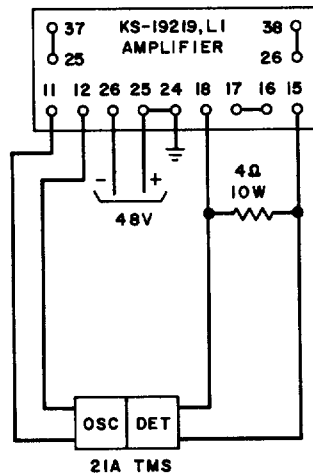

Fig. 2 — Tests of Record Channel
3.03 Tests of the Record Channel: Connect the amplifier as shown in Fig. 2 and proceed with the following instructions: